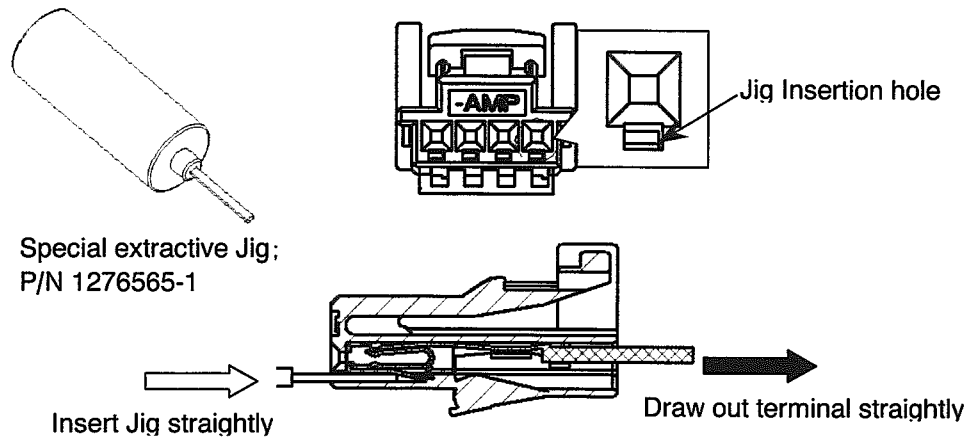

Fig.12
- ① Insert the special extractive jig (Part number:1276565-1) into the proper hole to the end.
- ② Remove the loaded terminal from housing while the crimped wire. See Fig.12